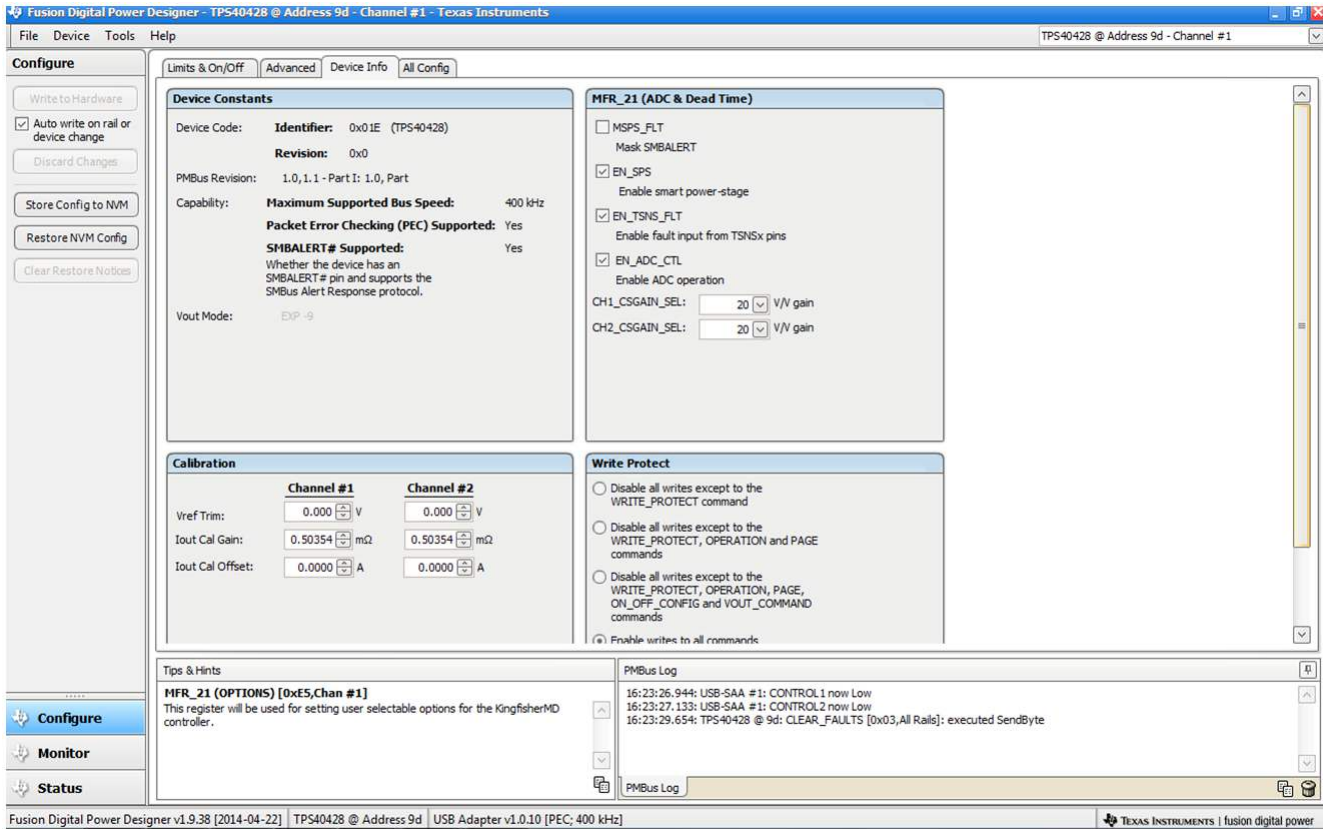

Figure 33. Configure - Device Information
- Use the screen in Figure 33 to configure: